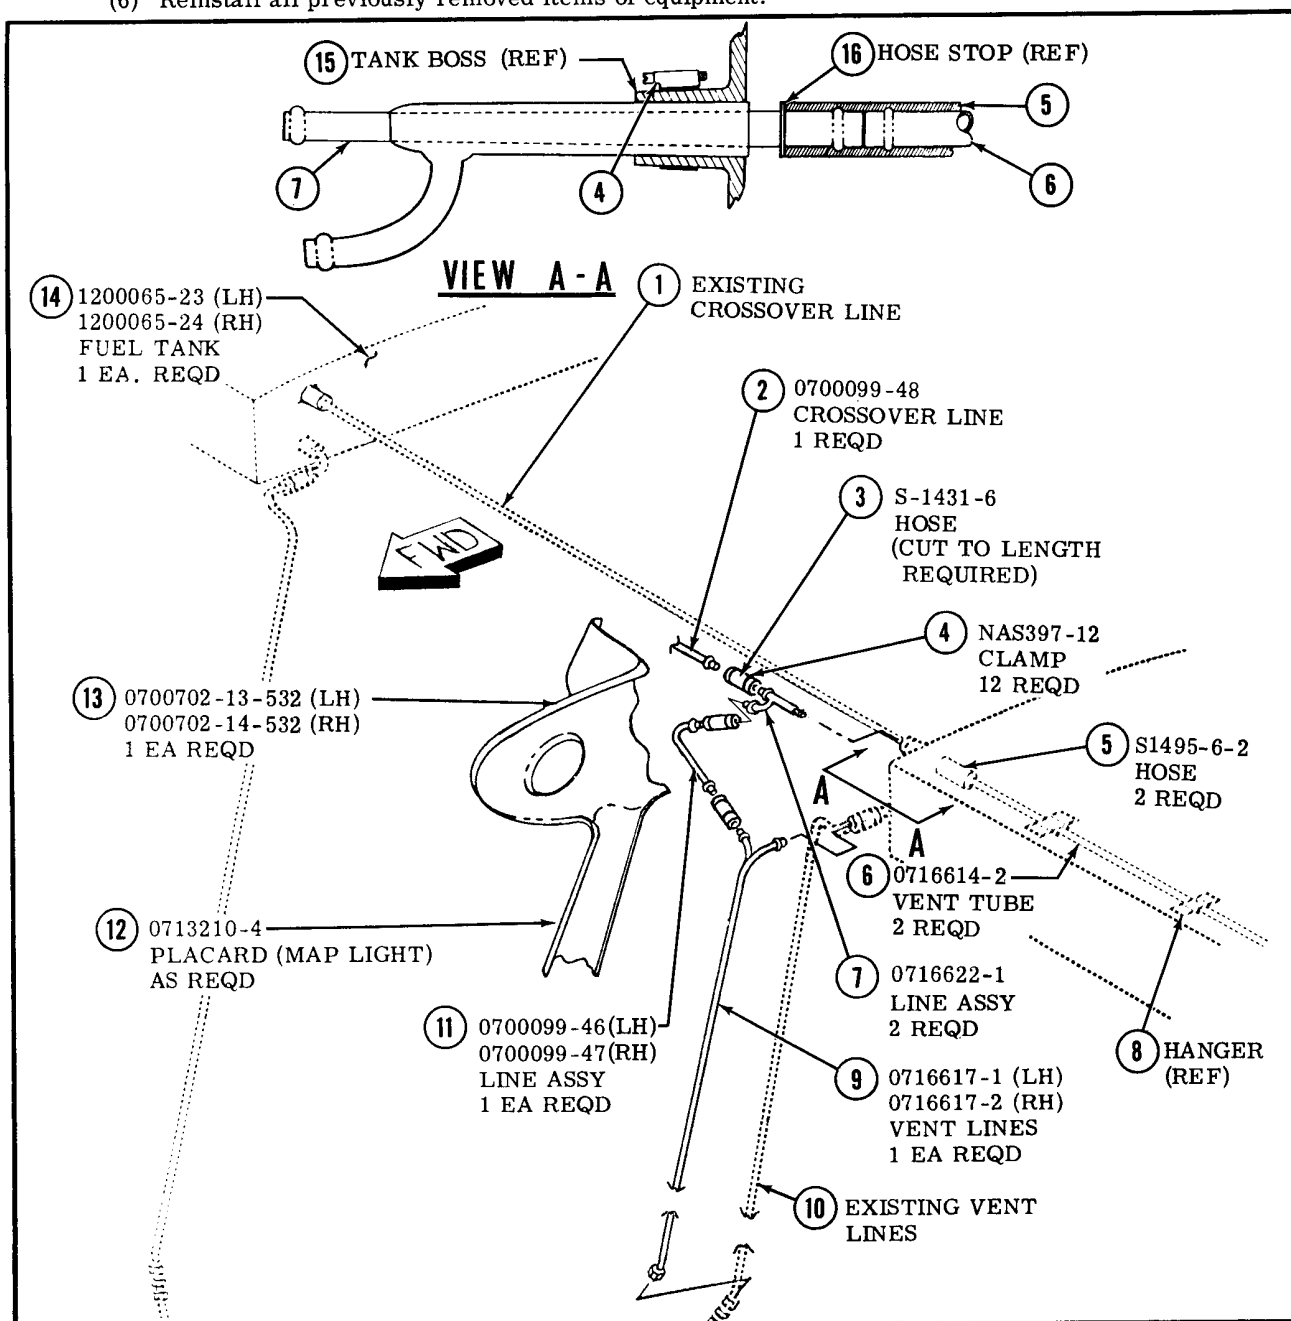

Figure 1. Fuel Lines Installation
- (1) Loosen headliner at top of windshield and cabin doors sufficiently to expose "cross over" fuel line.
- (2) Remove right and left hand front doorpost shields and loosen upholstery panels sufficiently to expose fuel lines from floorboard up to lower edges of windshield.
- (3) Remove wing root fairings.
- (4) Drain fuel from tanks and lines.
- (5) Disconnect forward and aft fuel lines, crossover line and overboard vent line.
- (6) Remove fuel tanks from aircraft.
b. (Refer to figure 1.) Fuel tank and lines installation.
- (1) Install new fuel tanks using new fuel transmitter gaskets and reconnect overboard vent line.
- (2) Install all new lines as shown.
- (3) Install hose (5) over end of line (7) inside tank and insert beaded end of vent (6) thru rings in hangers (8) and into open end of hose (5). No clamping is required.
- (4) Install new doorpost shields (10). Transfer map light to new LH shield if existing in aircraft.
- (5) Refuel aircraft and check for leaks.
- (6) Reinstall all previously removed items of equipment.